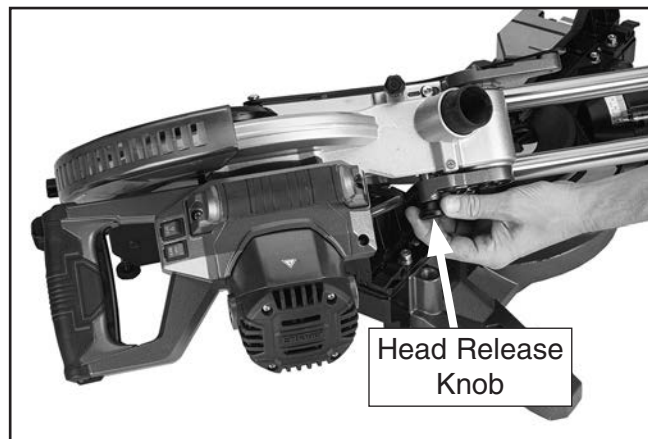

Figure 20. Releasing cutting head.
1. Pull head-release knob to disengage cutting head from locked position (see **Figure 20**).